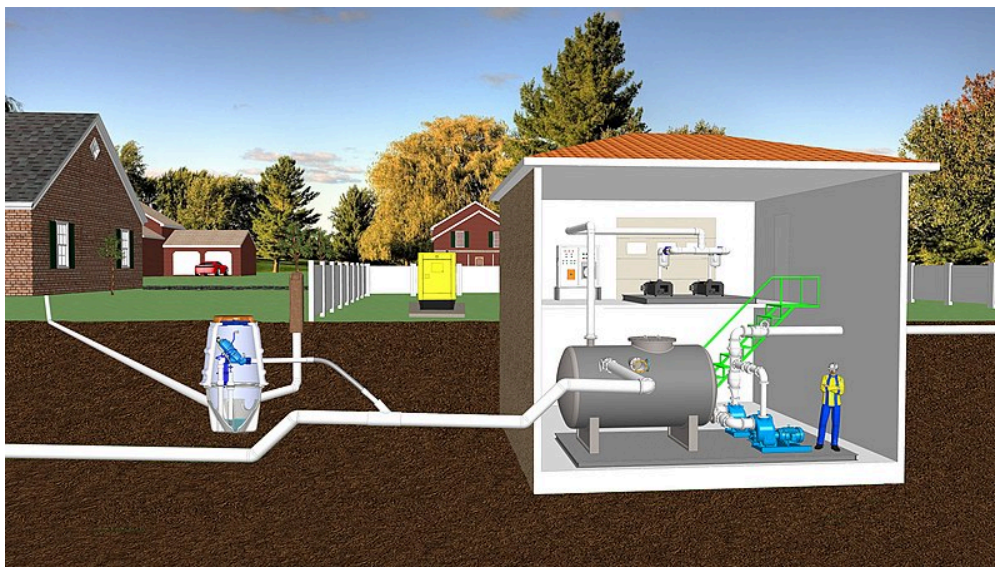

Figure 13 Vacuum sewer system
- Figure 13 Vacuum sewer system (https://commons.wikimedia.org/wiki/File:Vacuum_Station_Layout.jpg) by Srstevens3 is licensed under a CC BY-SA 4.0 licence (<https://creativecommons.org/licenses/by-sa/4.0/deed.en>).